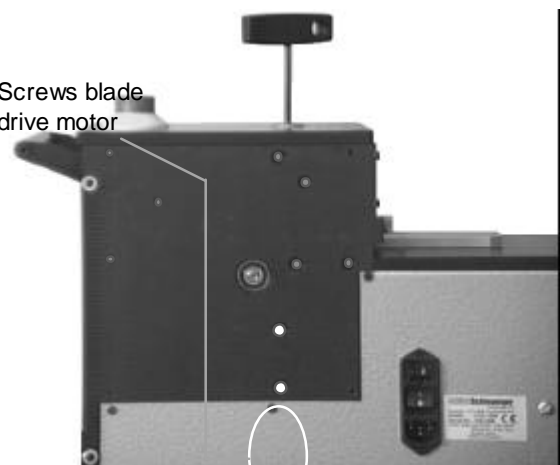

Figure 14. Screws on blade drive motor
- Undo both screws on the blade drive motor (Figure 14). The motor will slide downwards; if it doesn't, slide the motor down slightly using your hand.